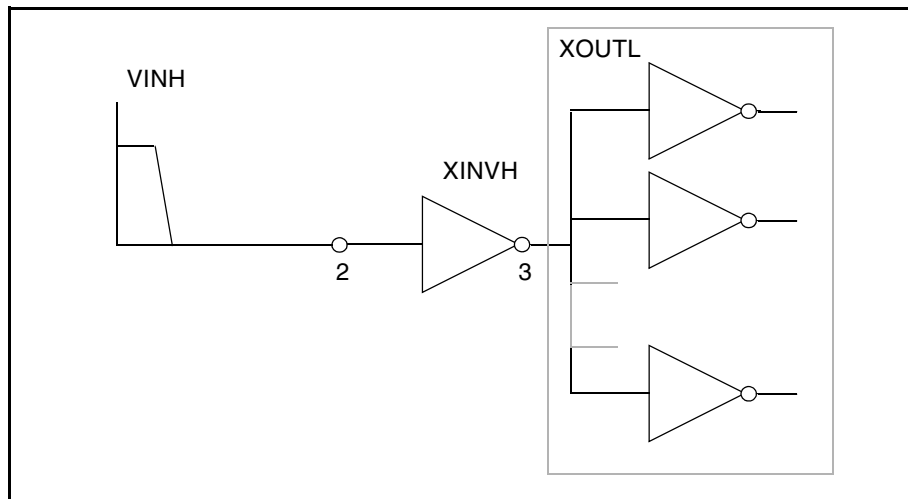
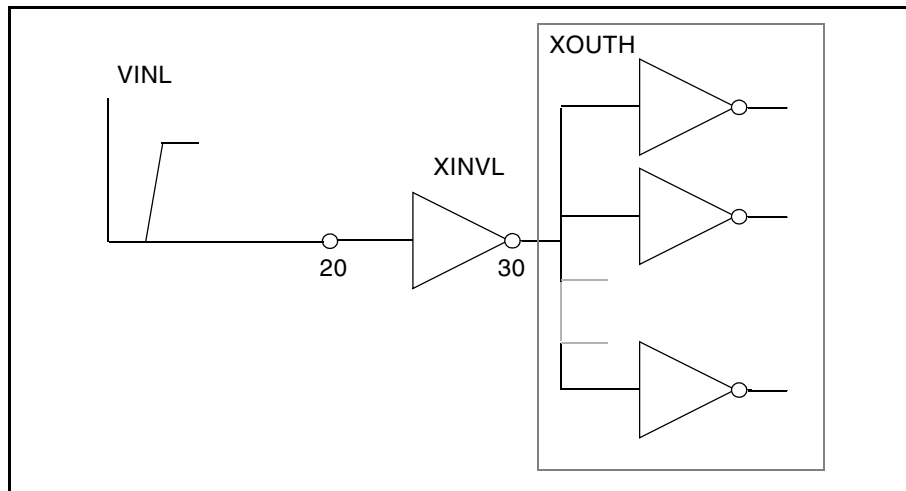

Figure 191 Cell Characterization Circuit 1
Figure 192 Cell Characterization Circuit 2
Figure 191 and Figure 192 are identical, except that their input signals are complementary.
- The circuit in Figure 191 calculates the rise time and the low-to-high propagation delay time.
- The circuit in Figure 192 calculates the fall time and the high-to-low propagation delay time.